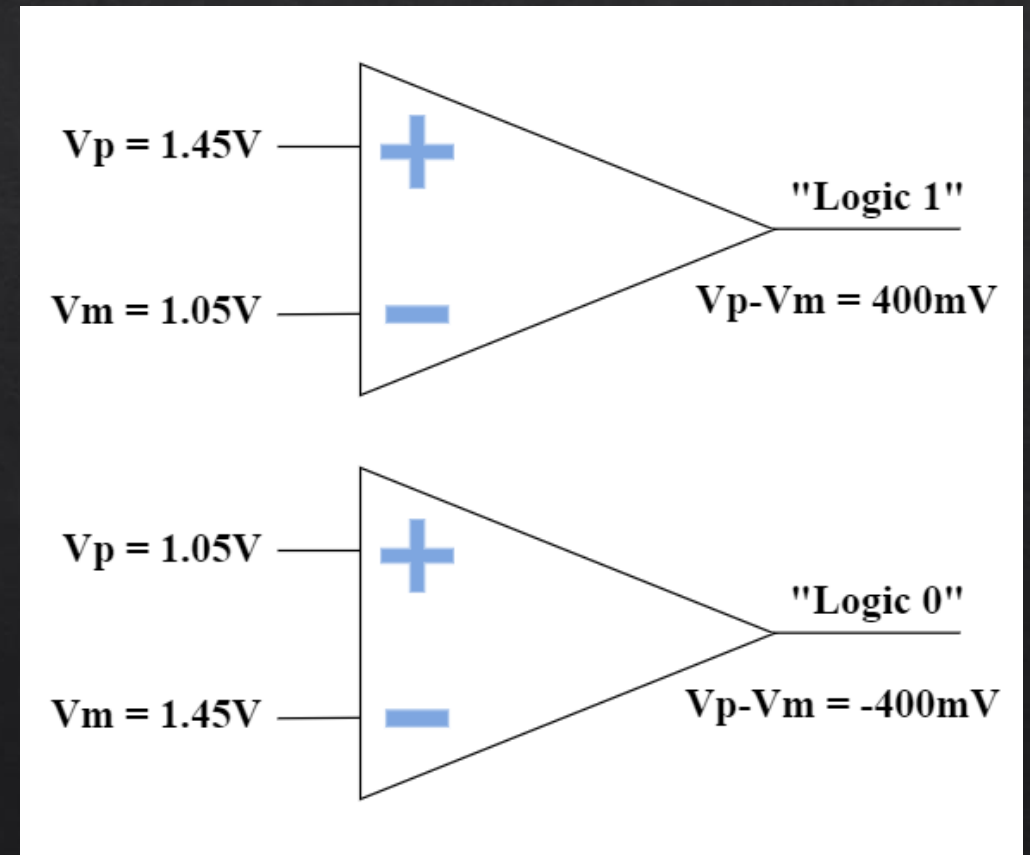

Figure 9: System "Logic 1" vs. "Logic 0."
- Two possible signal levels (Figure 9)